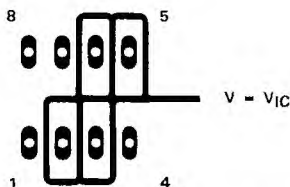

FIGURE 4. ISOLATION METAL AROUND DEVICE INPUTS
1. Isolate the device from other potential leakage sources. Use a grounded shield around and between the device inputs (see Figure 4). Leakages that would otherwise flow to the inputs will be shunted away.